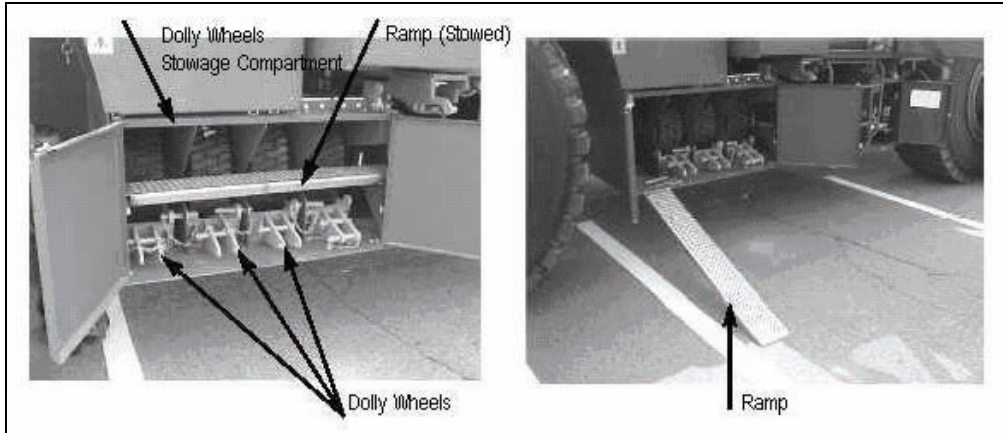

Figure 3-149. Dolly Wheels Storage Compartment
- h. Open dolly wheels storage compartment and remove ramp from stowage and then position against storage compartment. When installed, front and rear dolly wheels are turned toward each other (see Figure 3-149).